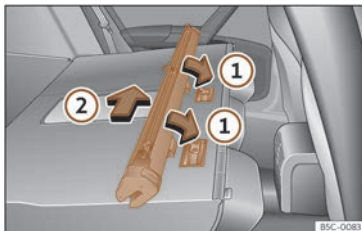

Fig. 183 Assembling the net partition in the rear seat backrests.
- Place the net casing in the rail slots in the direction of the arrows >>> **Fig. 183 ①**.
- Push the casing towards the left side of the vehicle in the direction of arrow >>> **Fig. 183 ②** and as far as it will go.
- Pull the net casing out approximately 5 cm in the opposite direction to the arrow >>> **Fig. 183 ②**.
- Remove the casing from the rails by pulling in the opposite direction to the arrows >>> **Fig. 183 ①**.